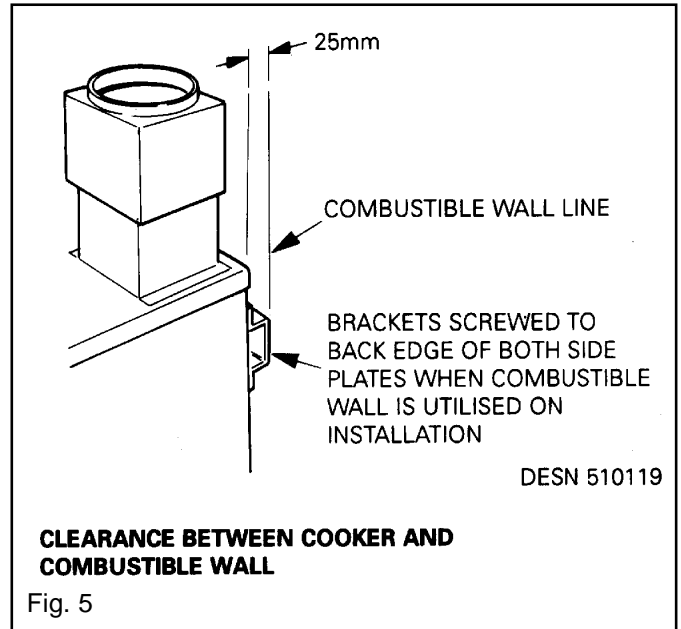

Fig. 5
2. Appliance Rear Distance Bracket (For use when appliance is Bracket installed 25mm away from a rear wall of combustible material). See Fig. 5.
**NOTE: IF THE REAR WALL IS OF COMBUSTIBLE MATERIAL, THERE MUST BE AN AIR GAP OF 25mm, BETWEEN THE WALL AND REAR OF APPLIANCE. FIT REAR DISTANCE BRACKET AS SHOWN IN FIG. 5.**